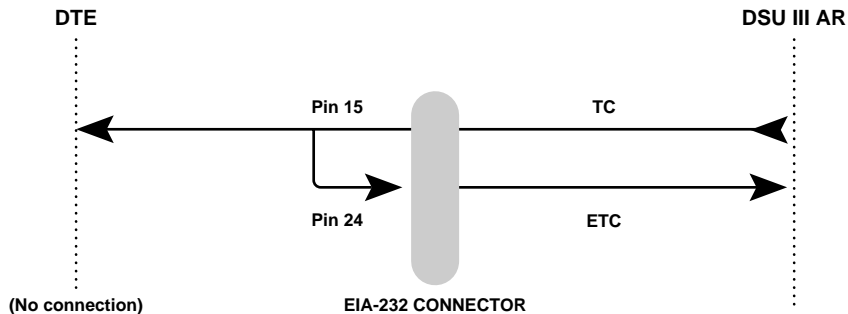

Figure D-1
The EIA-232 connector, shown in Figure D-1, may be used for 56 and 64 kbps applications. Using the External clock option and this cable should eliminate data errors caused by excessive delays in the DTE transmit clock receiver and transmit data driver. When creating this cable at the DTE interface EIA-232 connector, tie transmit clock lead (TC) to external transmit (ETC) as shown.